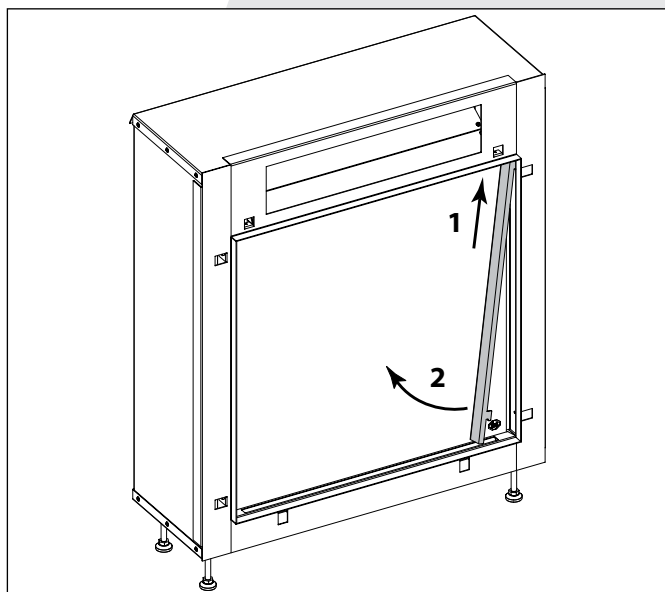

Figure 6
1. Remove the decorative strip on the right hand side of the appliance (figure 6). Remove the decorative strip on the left hand side in the same way.